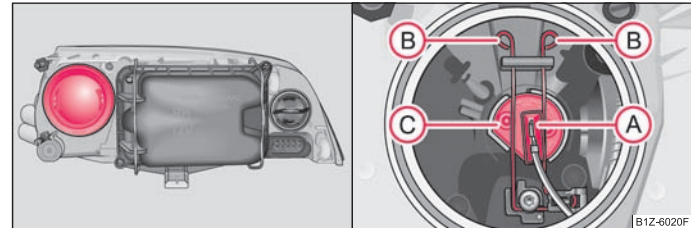

Fig. 150 Protective cover for the bulb for the main beam light / removing the bulb for the main beam light
- Remove the protective cover from the rear par of the headlight ⇒ fig. 150 - left.
- Unplug plug (A).
- Press the wire clamps (B) in the direction of the headlight and then unhook them to the side.
- Remove the light bulb (C) and insert the new light bulb in such a way that the fixing lugs of the light bulb socket fit into the recesses at the reflector.